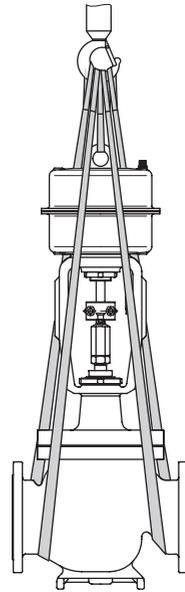

Fig. 4: *Lifting points on the control valve (example)*
- Make sure that the additional sling between the lifting eyelet, eyebolt or swivel lifting hook and the rigging equipment (hook, shackle etc.) does not bear any load when lifting control valves larger than DN 150 with the actuator already mounted. The sling only protects the control valve from tilting while being lifted. Before lifting the control valve, tighten the sling. The slings attached to the valve body must bear the entire load (see Fig. 4).